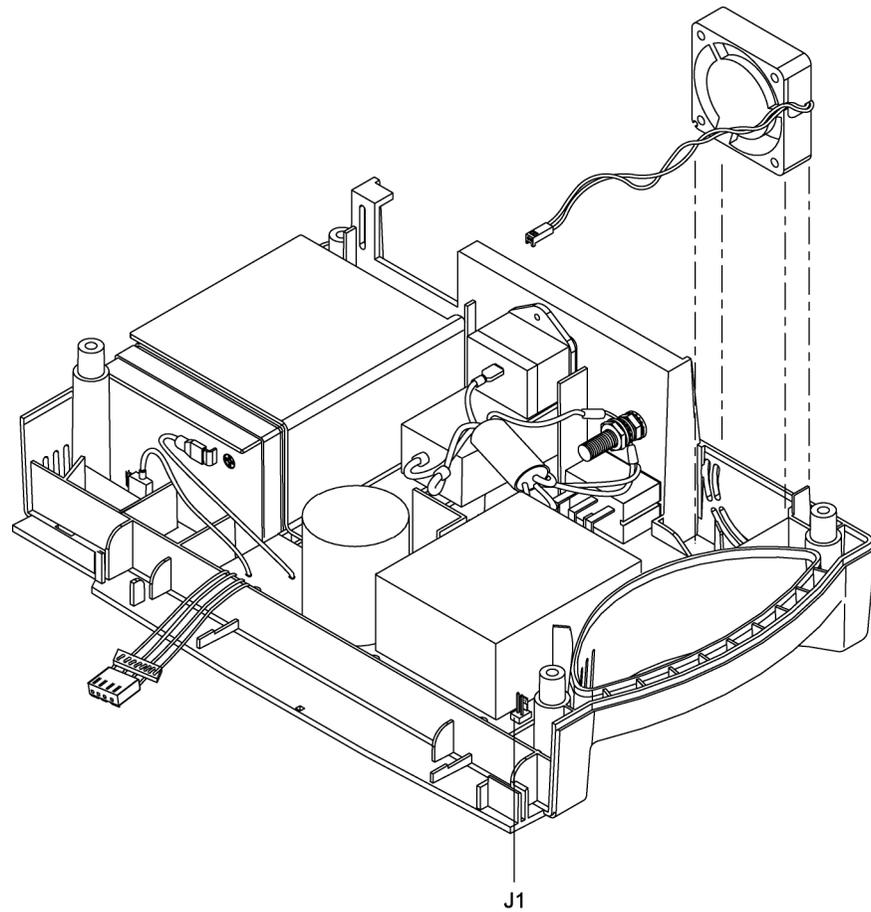

Figure 10: Cooling Fan
2. Disconnect the fan wire harness from J1 on the Power Supply PCB (see Figure 10).